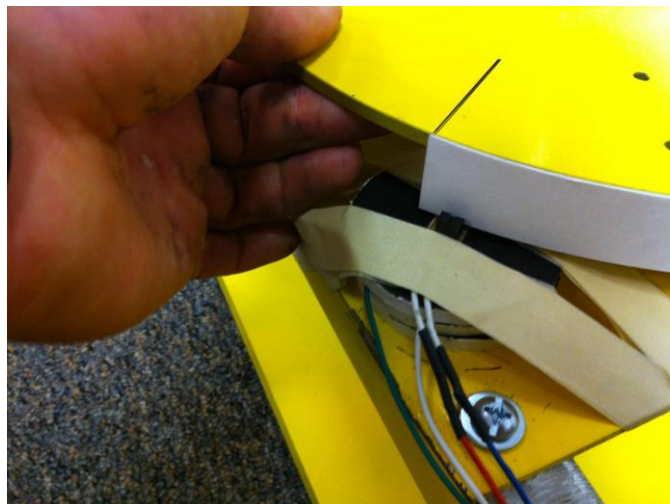

Figure 45 – Clearance for optical sensor
- c. Carefully position the disk on the shaft so that the paper strips are approximately 1/8" to 1/4" from the bottom of the optical sensor, as shown in Figure 45.